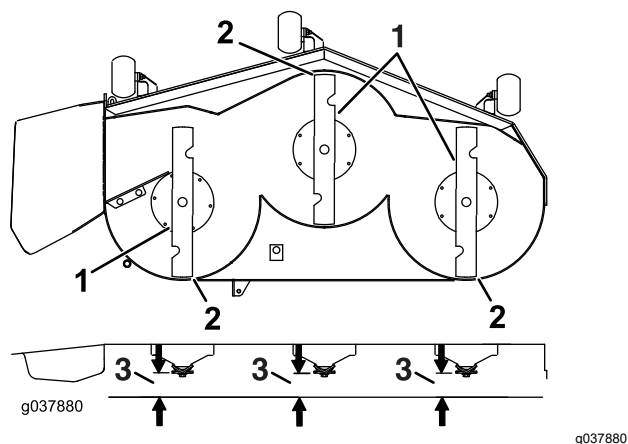

Figure 95
7. Check the front-to-rear blade level (Figure 95). Ensure the front blade tip is lower than the rear blade tip as shown in the block height and rake table. If adjustment is needed, continue with this procedure.